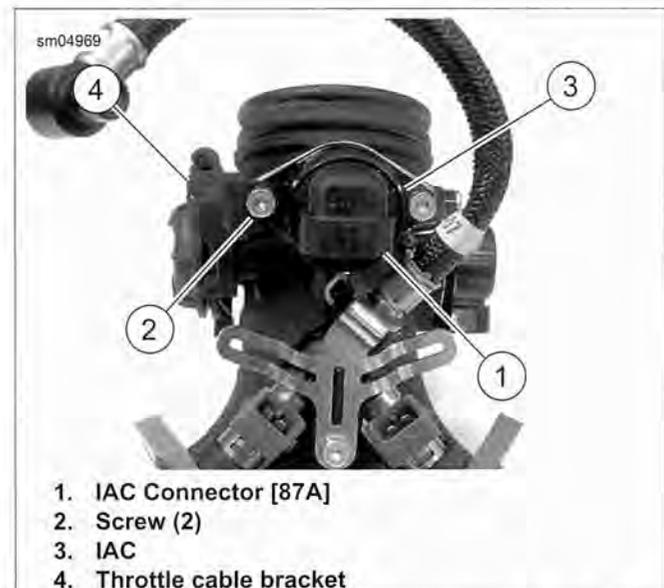

Figure 4-53. IAC Removal/Installation: XR 1200X
3. See Figure 4-53. Unplug harness connector [87B] from IAC connector [87A] (1).
7. See Figure 4-53. Apply a drop of LOCTITE 243 (blue) to the threads of each screw (2).
8. See Figure 4-53. Install two screws (2). Using a six-point socket (not a TORX wrench), tighten to 60 **in-lbs** (6.8 Nm).
9. Plug harness connector [87B] into IAC connector [87A] (1).